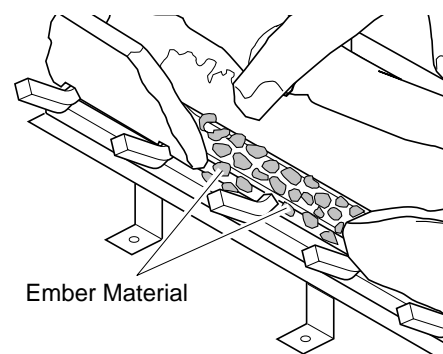

Figure 50 - Placing Ember Material on Burner
6. Pull ember material apart into pieces no larger than a dime. Place these pieces loosely and sparingly directly onto the exposed section of the front burner and along the space between the burner and grate prongs (see Figure 50). This will create the glowing ember appearance as the flame touches the ember material. Do not block air slots by using too much ember material in one area. It is not necessary to use all of the ember material provided.